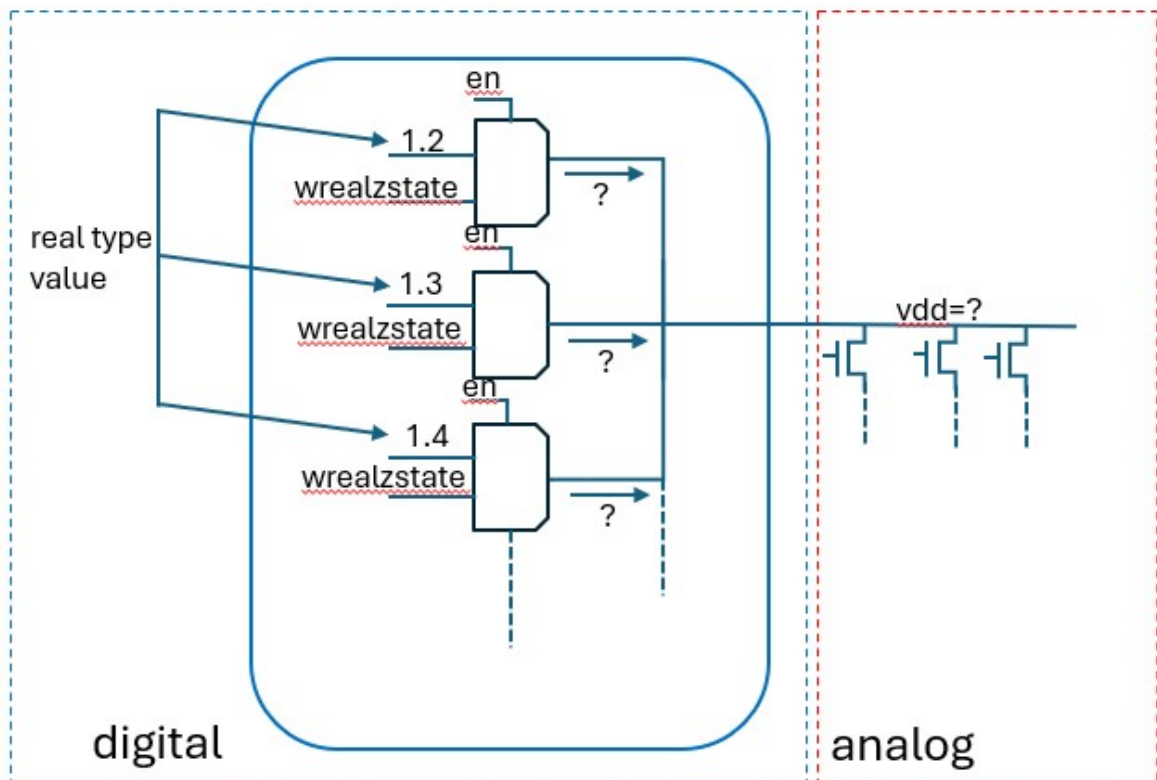

Figure 2: Real Number Modelling (RNM) technique to pass a real value as a power supply of an analog block
4. Recently, real number modeling (RNM) in SystemVerilog or Verilog-AMS is becoming increasingly popular for modeling analog blocks, particularly in power management applications. It uses real numbers (64-bit floating point) or “wreal” (wire real) to carry analog information like voltage or current in and out of the blocks. These real-valued signals may interact directly with analog circuits through real-to-voltage conversions. Their values often depend on upstream multiplexing logic. Therefore, when an analog supply behaves unexpectedly, engineers need visibility into the actual digital driver to diagnose the issue (Figure 2).